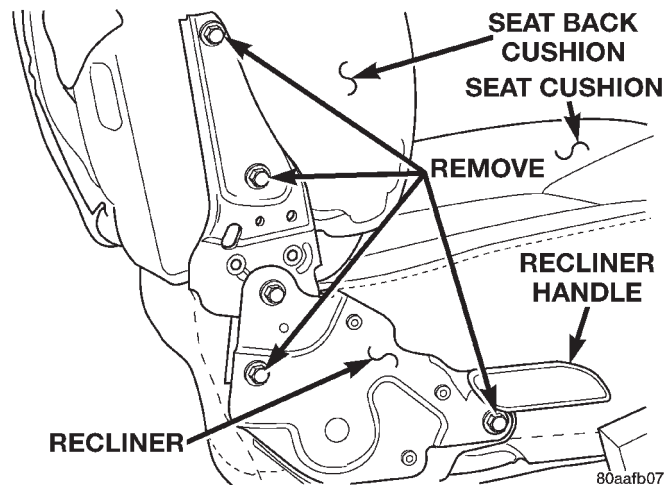

Fig. 13 Bucket Seat Recliner
- (1) Remove side shield trim cover.
- (2) Disengage seatback cover zipper.
- (3) Roll outer seatback cover upward.
- (4) Remove bolts attaching recliner to seatback and seat cushion frames (Fig. 13).
- (5) Separate recliner from seat.
- (1) Position recliner on seat.
- (2) Install bolts attaching recliner to seatback and seat cushion frames (Fig. 13).
- (3) Roll seatback cover downward.
- (4) Engage seatback cover zipper.
- (5) Install side shield trim cover.